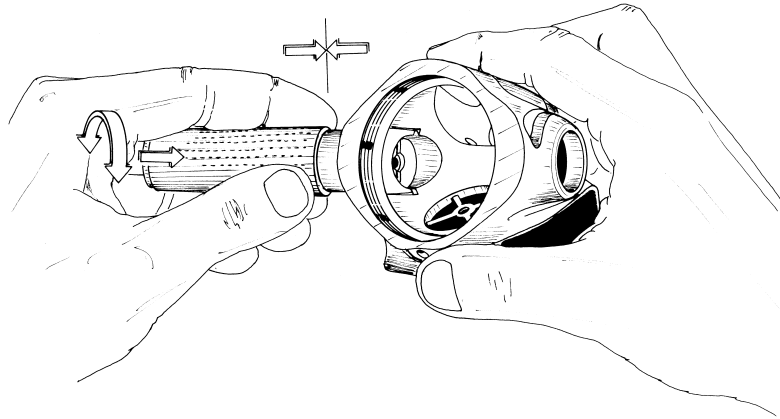

FIG. 7
B.3 Insert the special tool (B-36) (Cod. 46200383) into the 2nd stage case assembly connector until it engages the bushing (165) (Fig. 7).